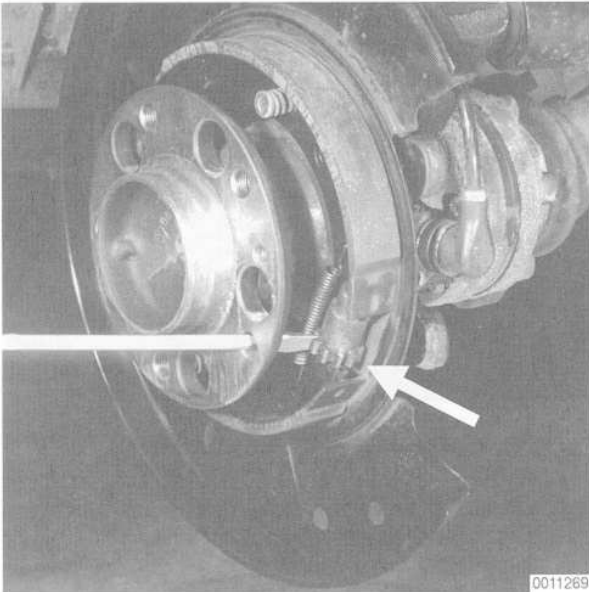

Fig. 17. Parking brake adjuster (arrow) being turned using screwdriver. Rear wheel and brake rotor shown removed.
5. Using a screwdriver, turn the adjuster to expand the brake shoes until the road wheel can no longer turn, then back the adjuster off about eight (8) notches. Repeat the procedure on the other rear wheel. See Fig. 17.